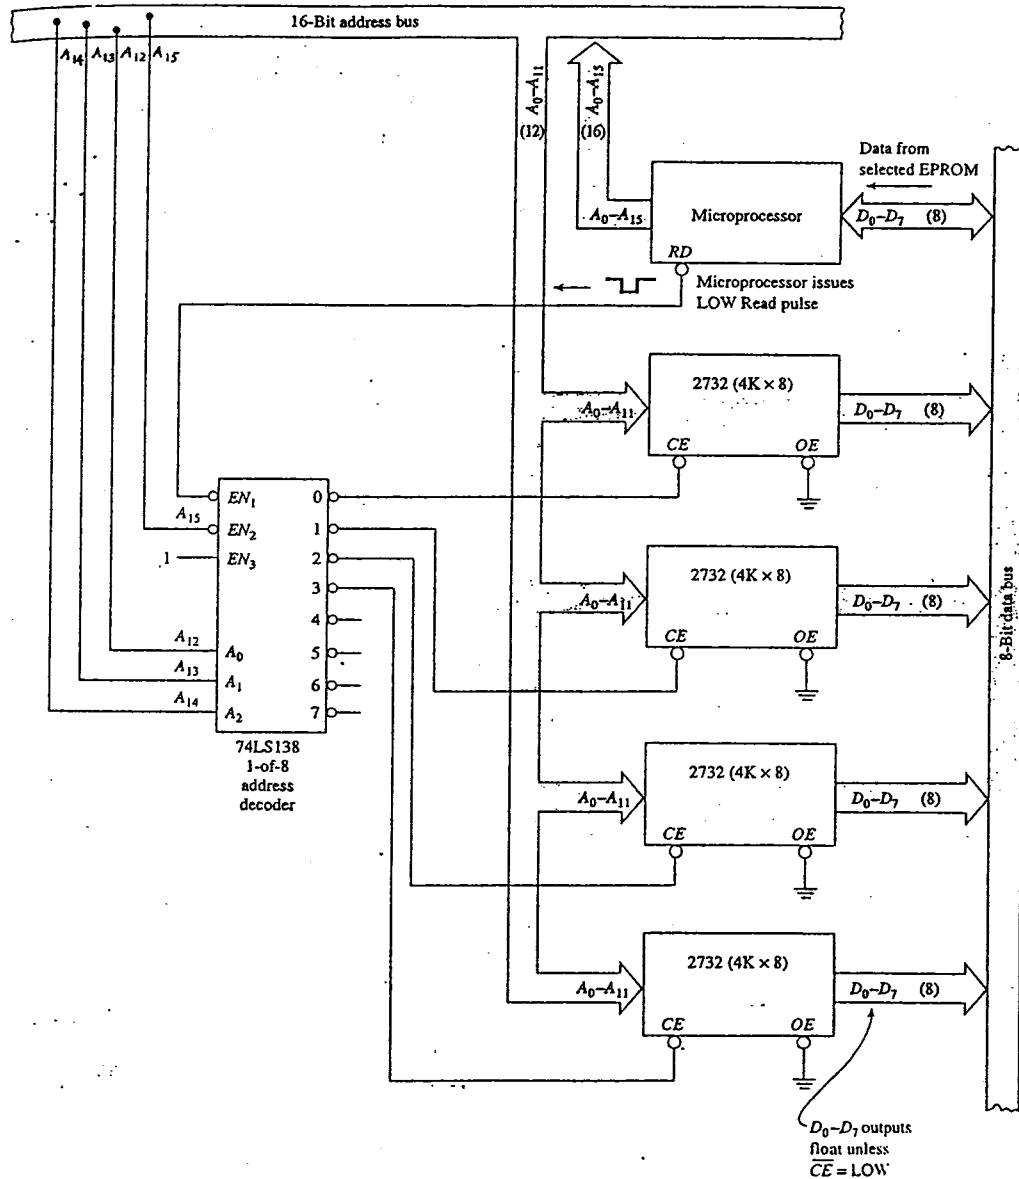

Figure 1
4. The four EPROMs in Figure 1 are set up in consecutive memory locations between 0 to 16K and are individually enabled by the 74LS138 address decoder. The 4K x 8 EPROMs each require 12 address lines for internal memory selection, leaving the four HIGH-order address lines (A_{12} to A_{15}) free for chip selection by the 74LS138.
- (a) When testing the EPROM memory system in Figure 1, the microprocessor reads valid data from all EPROMs except the second EPROM. What are two probable causes?
- (b) Determine the address range for each EPROM and which EPROM address are accessed when the microprocessor of Figure 1 issues a Read command for the following hex addresses:
- (c) Based on Figure 1, design and sketch an address decoding scheme for the 64KB of memory system. Briefly describe how your memory system can be done.